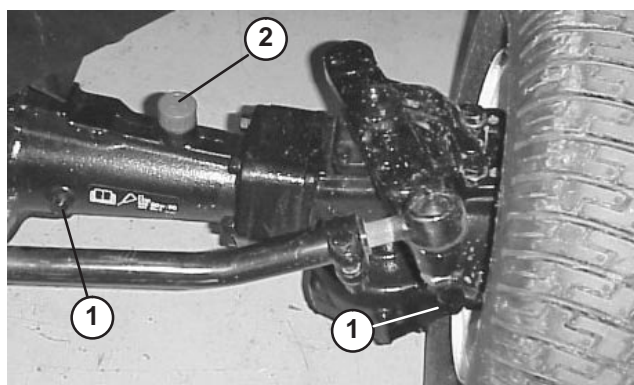

Figure 19
2. Remove check plugs (3) from axle and make sure lubricant is up to bottom of each hole (Figures 19 and 20).
3. If level is low, remove center fill plug and add enough lubricant to bring the level up to the bottom of the center check plug hole (Figures 19 and 20).